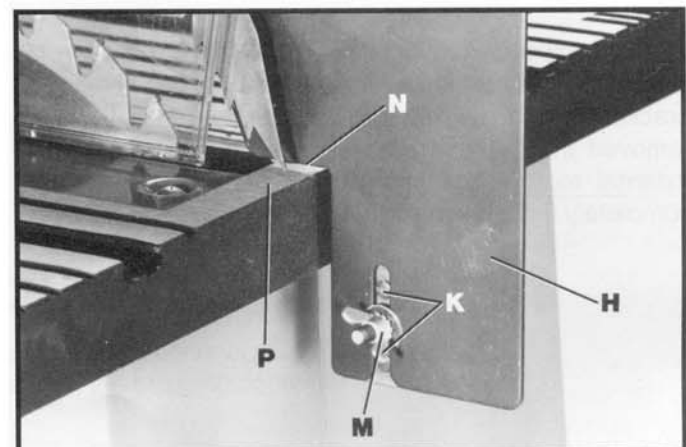

Fig. 8A
8. Fasten splitter (H) Fig. 8A, to splitter support bracket using flat washer, external tooth lockwasher and wing nut (M). **NOTE:** Before tightening wing nut (M) make certain there is at least a 1/8" gap between the bottom edge of splitter (N) and top surface of table (P) and that protrusions, "pins" (K) Fig. 8A, are inside the slot of splitter assembly (H).